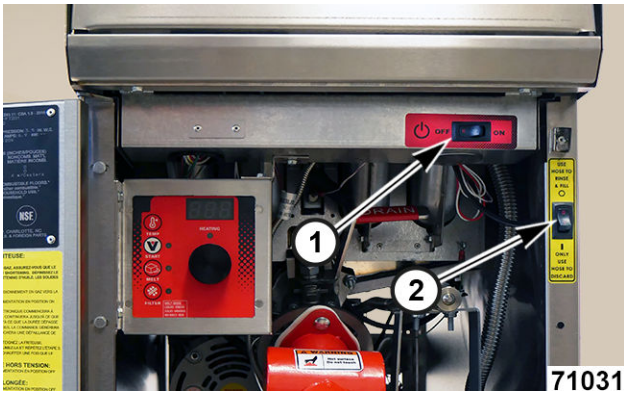

Fig. 63
2. Locate power switch (1, Fig. 63).
3. Locate discard hose switch (2, Fig. 63).